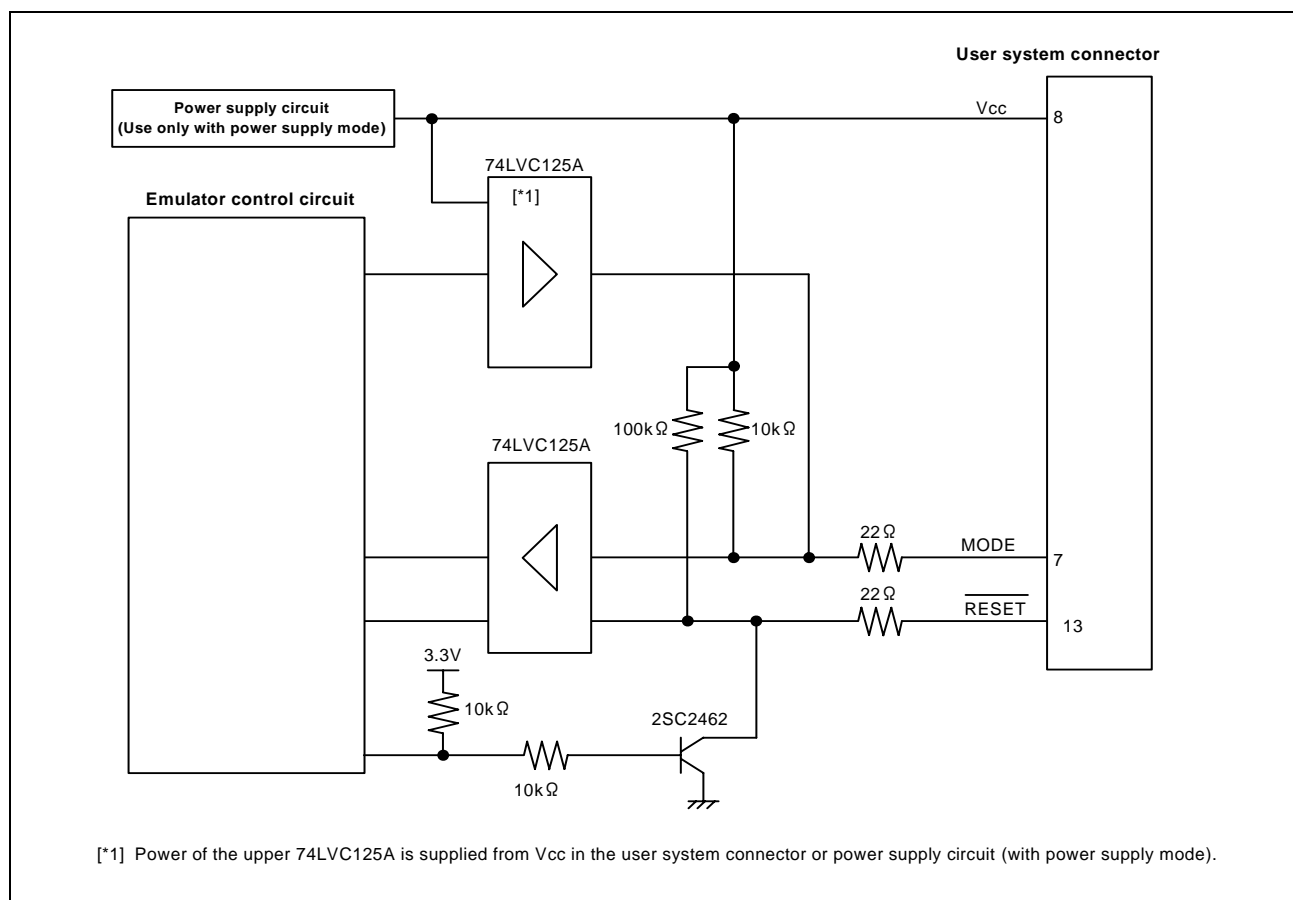

Figure 4.4 Interface Circuit in the E8 Emulator (Reference)
7. Figure 4.4 shows the interface circuit in the E8 emulator. Use this figure as a reference when determining the pull-up resistance value.